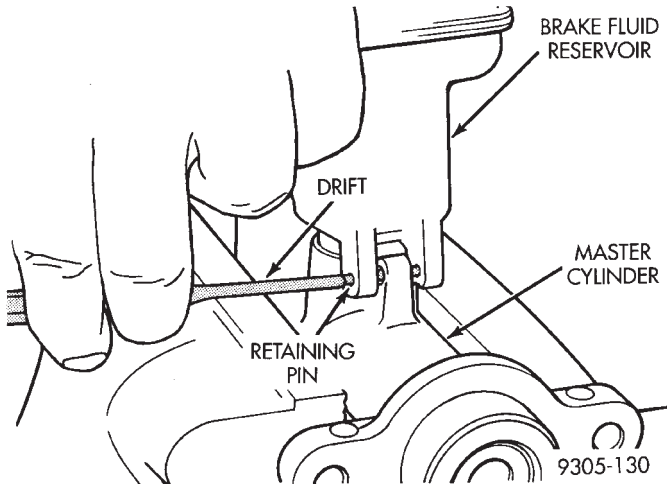
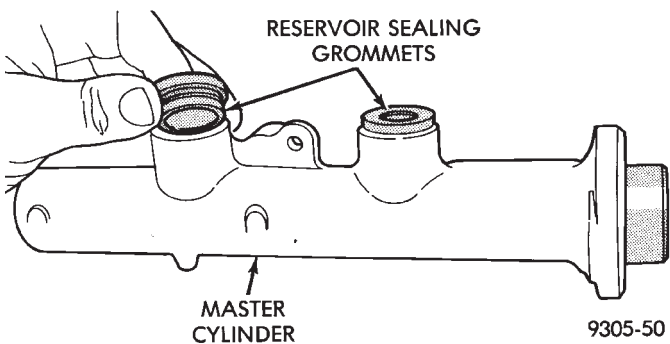

Fig. 74 Reservoir Retaining Pins
Fig. 76 Reservoir Sealing Grommets
(1) Using an appropriate cleaner such as Mopar, Brake Parts Cleaner, clean the master cylinder housing and brake fluid reservoir.
(2) Remove the brake fluid reservoir caps. Using a syringe or equivalent empty brake fluid from reservoir.
(3) Remove the master cylinder from the vacuum booster.
(4) Clamp the master cylinder in vise.
(5) Remove the 2 fluid reservoir to master cylinder retaining pins (Fig. 74).
(7) Remove the master cylinder housing-to-reservoir grommets (Fig. 76).
(1) Install new housing-to-reservoir grommets in master cylinder housing (Fig. 76).
(2) Lubricate brake fluid reservoir mounting area with clean brake fluid. Place reservoir in position over grommets. Seat reservoir into sealing grommets using a rocking motion while pushing down on reservoir.
(3) Make sure bottom of reservoir touches the top of both sealing grommets.
(4) Install the 2 fluid reservoir to master cylinder retaining pins (Fig. 74).